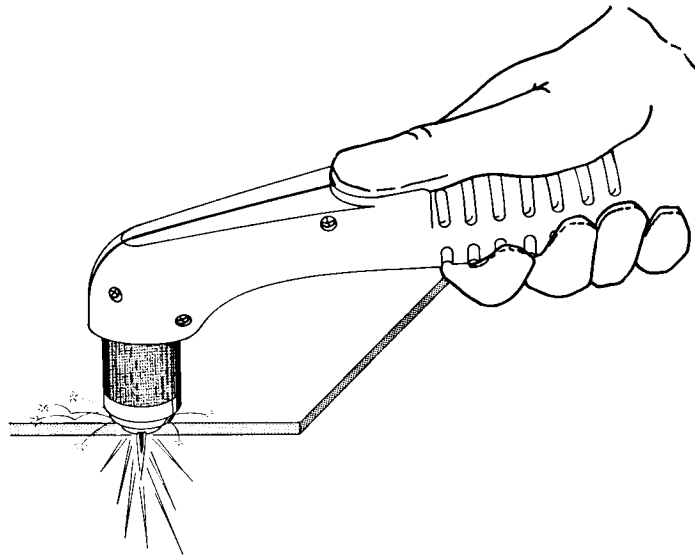

Figure 4-6 Starting a Cut
- Start cutting from the edge of the workpiece (Fig. 4-6) unless you must pierce. For tips on piercing, see *Piercing* later in this section.